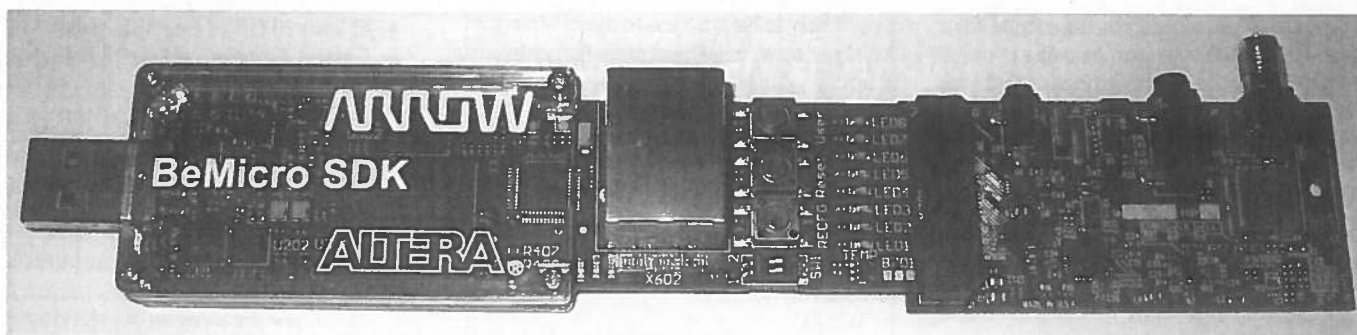

Figure 1 — The BeMicroSDK data engine together with the HF1 RF front-end board.
- BeMicroSDK development board and a UDPSPDR-HF1 receiver board (Figure 1).